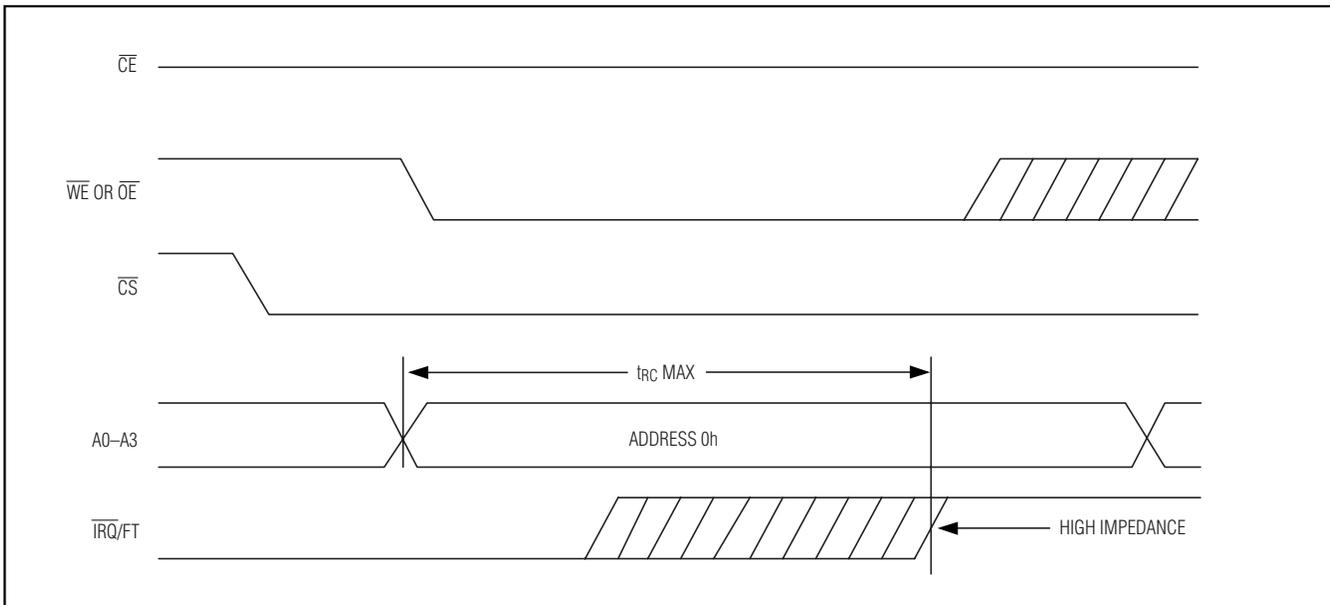
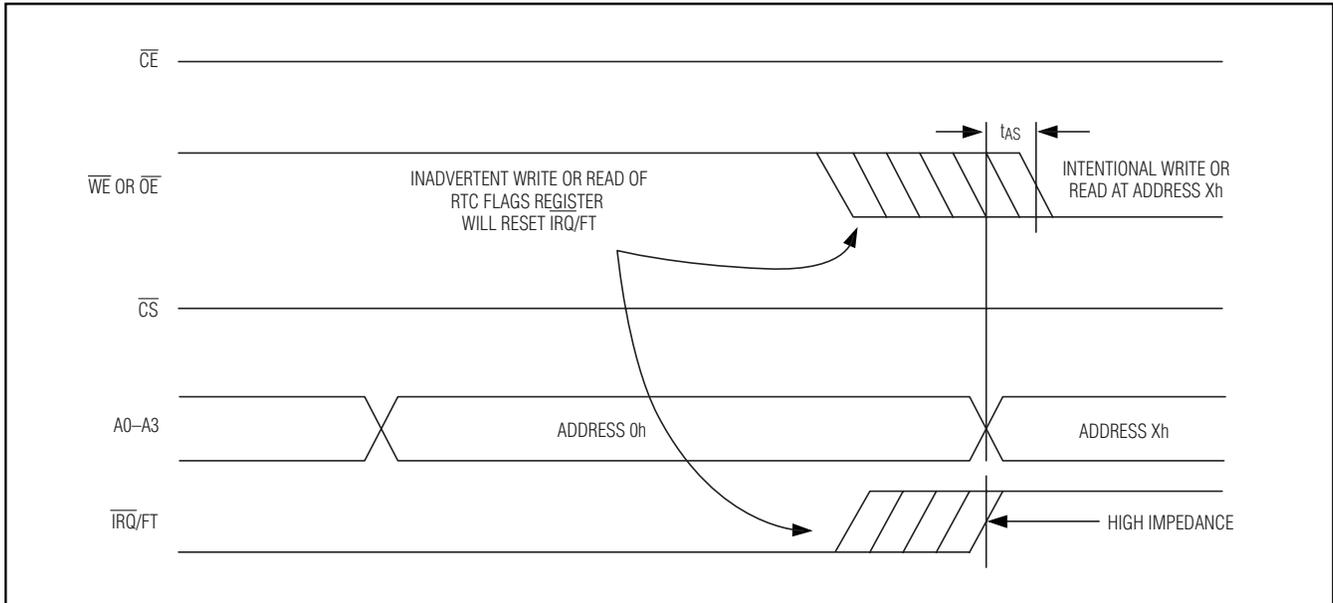

Figure 1. Clearing Active IRQ Waveforms
Figure 2. Prevent Accidental Clearing of IRQ Waveforms
When the RTC register values match alarm register settings, the alarm flag (AF) is set to a 1. If AE is also a 1, the alarm condition activates the  $\overline{\text{IRQ/FT}}$  output. When  $\overline{\text{CS}}$  is active, the  $\overline{\text{IRQ/FT}}$  signal can be cleared by holding the **FLAGS** register address stable for  $t_{\text{RC}}$  and forcing either  $\overline{\text{OE}}$  or  $\overline{\text{WE}}$  active (see Figure 1). The flag does not change state until the end of the read/write cycle and after the  $\overline{\text{IRQ/FT}}$  signal has deasserted. To avoid inadvertently clearing the  $\overline{\text{IRQ/FT}}$  signal while preparing for subsequent write/read cycles at other register addresses, assure that  $t_{\text{AW}}$  is met for that subsequent address (see Figure 2).